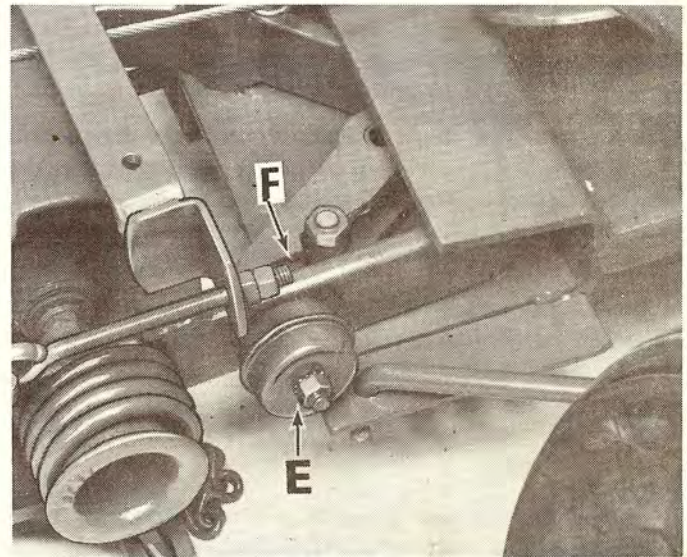

Fig. 17
## AUTOMATIC BREAK-BACK - FIG. 17
The break-back automatically releases sickle bar into break-back position when hitting obstruction. The sickle mower unit should be immediately DE-CLUTCHED. Return sickle bar to normal cutting position, engaging break-back. This may be done by reversing tractor with sickle bar on ground, or manually. Unwarranted or frequent break-back releases indicate tension on the spring under cup (E) FIG. 17 should be increased. To disengage safety break-back manually, insert screw driver at (F) FIG. 17 and pry break-back pivot open; at same time push sickle bar back to release catch.